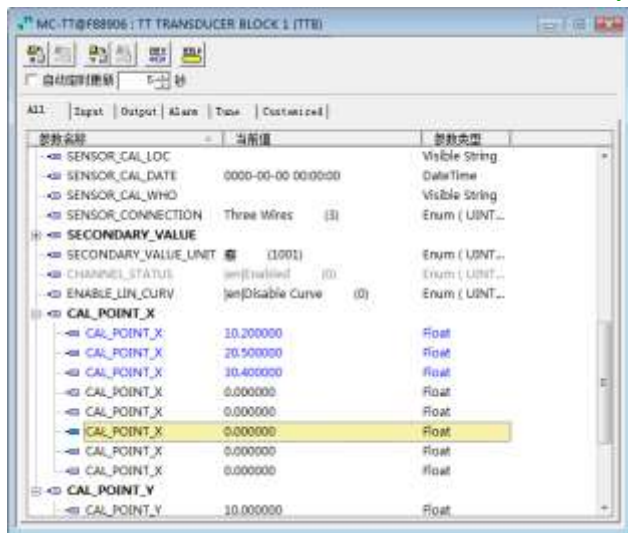

Figure 4.5 CAL_POINT_X configuration
- 2) Input standard signal via standard source, open the related transducer block, read the PRIMARY_VALUE value and write it to the CAL_POINT_X array. For example, if the read value is 10.2, 20.5, 30.4, are written to the CAL_POINT_X array, shown as Figure 4.5. The calibration is finished.